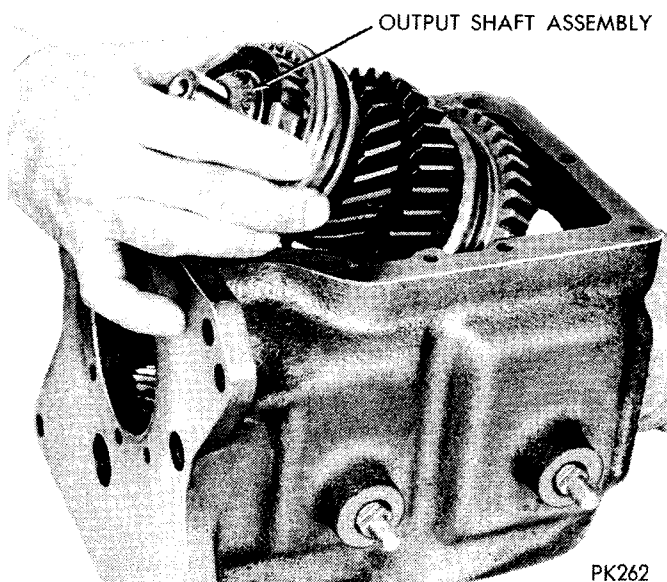

Fig. 7—Removing or Installing Output Shaft Assembly
(6) Position output shaft assembly in case (Fig. 7). Place transmission in vertical position with front of case flat on workbench. Place a 1-1/4 inch block of wood under front end of output shaft. The block of wood will hold output shaft assembly up during installation of output shaft bearing (Fig. 16).
(7) Install large snap ring on output shaft bearing. Place bearing on output shaft with large snap ring up.